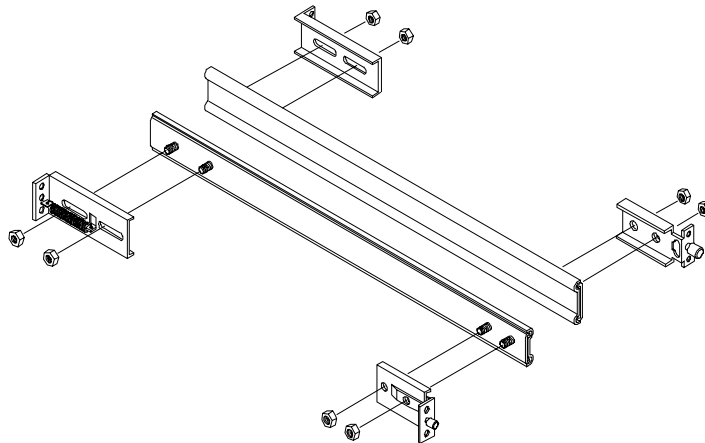

Figure 13-3. Removing Brackets from Slides
- a. Remove the spring from the slide's rear bracket. See Figure 13-3.